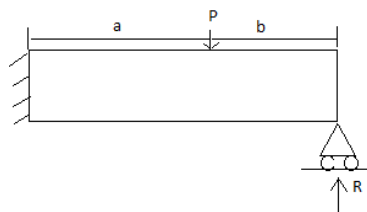

Fig.2
- 9 a) Explain the principle of virtual work? (3)
- b) State and prove Castiglianos's first theorem. (7)
- 10 a) Write the general expression for twisting moment for shafts of non-circular cross section incorporating warping function  $\Psi(x,y)$ . (3)
- b) What is meant by warping of non-circular shafts? Prove that St.Venants warping function is harmonic? (7)
- 11 a) Explain the minimum potential energy theorem? (2)
- b) Find the support reaction  $R$  in Fig.2 at the end of the cantilever beam using strain energy method. (Load acting is  $P$  at a distance of ' $b$ ' from the roller support). (8)